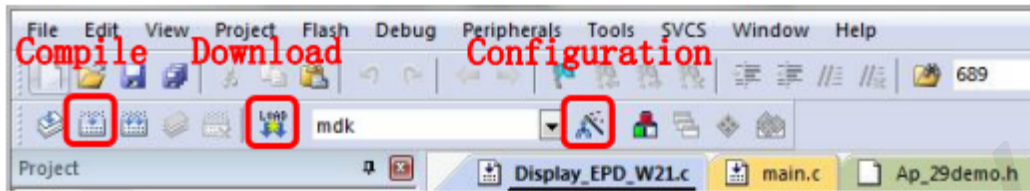
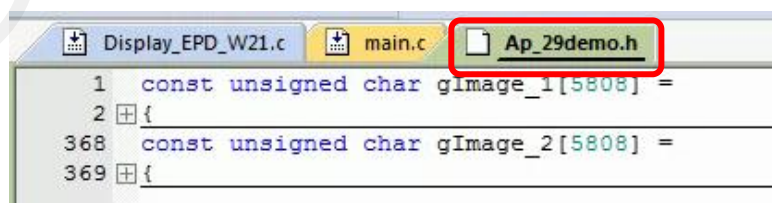

Figure 7 : Keil4 tool bar
Figure 9 :change the image data
3) The Keil4 toolbar is shown in Figure 7. Please click  at the first time using the simulator and a box like Figure 1 2 will pop up. Choose the simulator model of yours in the "Debug" bar, and click "OK to confirm.
4)Click Ap_29demo.h in Figure 9 to change the image data that needs to be displayed(the image data needs to be achieved by image2lcd).
5)Click  in the toolbar in Figure 7 to compile.
6)Click  in the toolbar in Figure 7 to download.
- 9) If you want to change a image, you need to use Keil4 to change the image data (Figure 9), compile it (Figure 7) to generate a new mdk.hex file, and then re-select the file to download it.